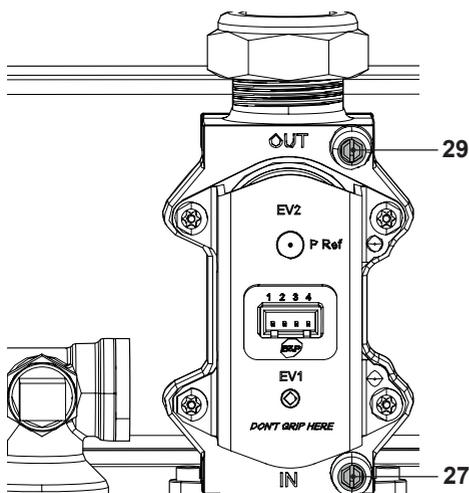

Fig. 7.8
- With the boiler switched on at full rate (maximum output power), check the supply pressure by using the 27 point in Fig. 7.8 and compare the value with that reported on the Gas supply pressure table (minimum inlet pressure) in the "Technical Data" section (page 28 **M300V.2025 SM**, (page 32 **M300V.2530 SM** and (page 36 **M300V.3035 SM**).
- Ensure the test nipple 27 in Fig. 7.8 is firmly closed.